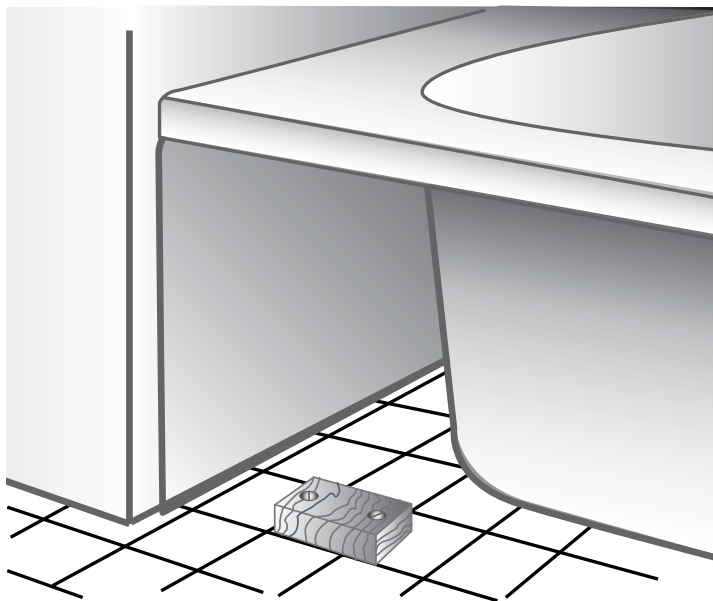

Fig. 1
**IMPORTANT** - Read these instructions prior to roughing in bath tub. Fasten 3 wooden blocks to the floor (see Fig. 1).